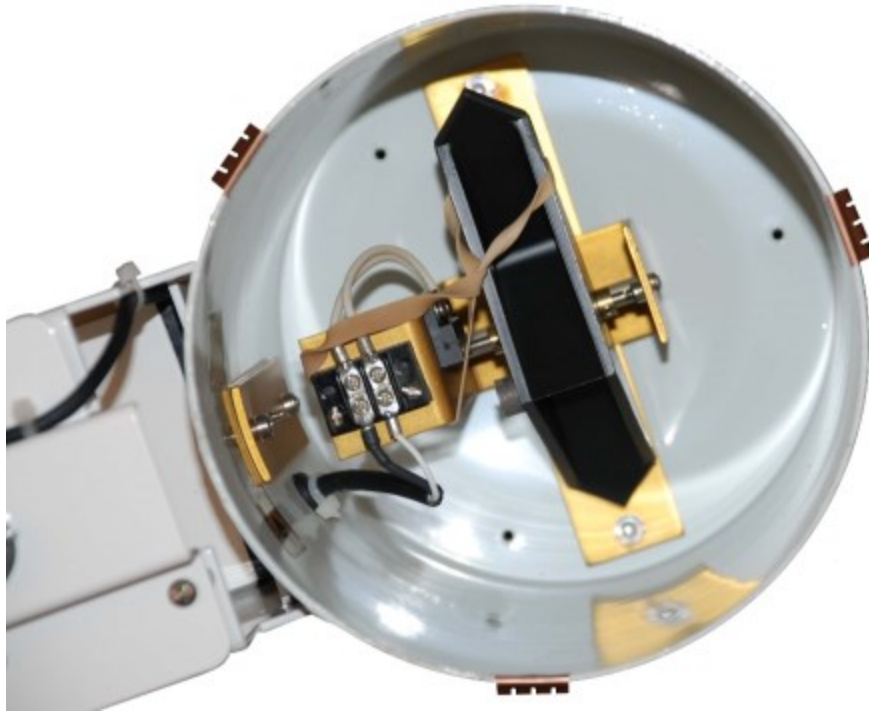

FIGURE 6-18. Remove rubber band from tipping mechanism
2. Remove the rubber band holding the tipping mechanism in place (FIGURE 6-18 (p. 31)).